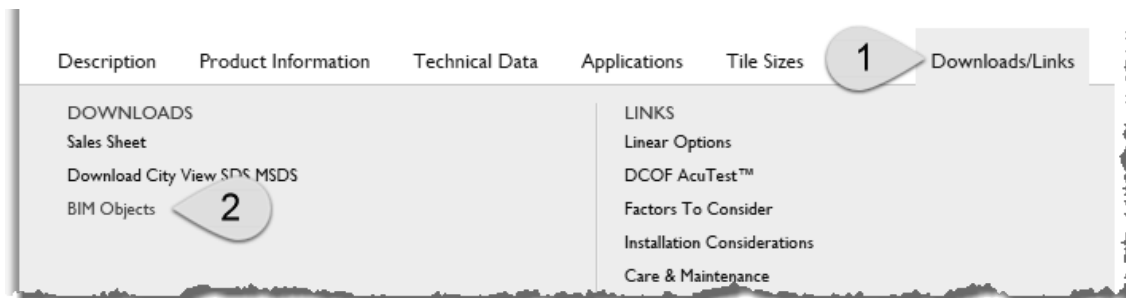

FIGURE 4-4.16 Large preview image from Dal Tile website
63. Scroll down and select **Downloads/Links**; click **BIM Objects**. This opens the ARCAT website - click **Materials**, and then click **Materials\_Daltile.zip**. Save the 300+mb file to your computer. (Figure 4-4.16).